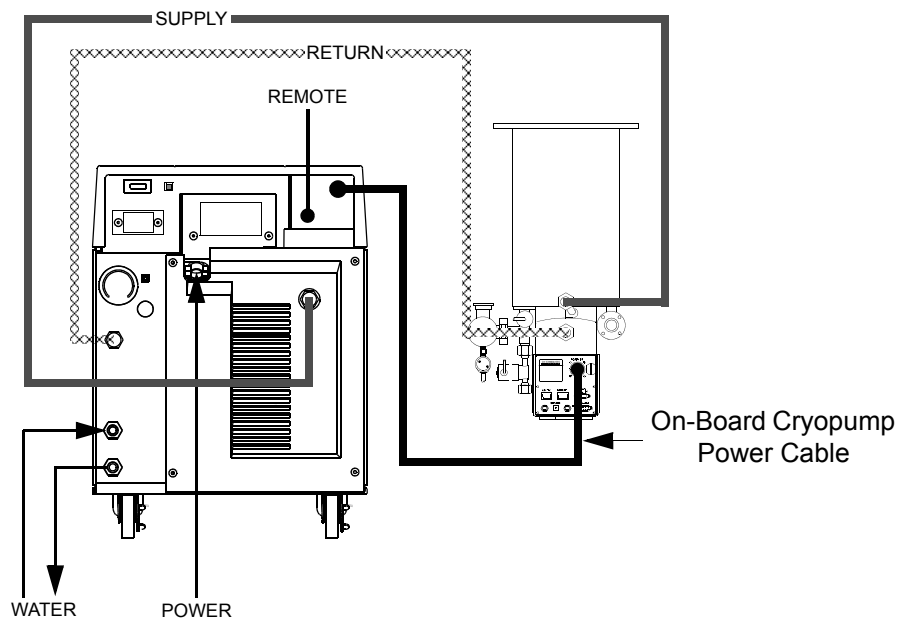

Figure 3-4: Single On-Board Cryopump Connections
2. Connect one end of the Cryopump cold head cable to the **CRYOPUMP ELECTRICAL OUTLET** on the rear panel of the Compressor as shown in Figure 3-4.